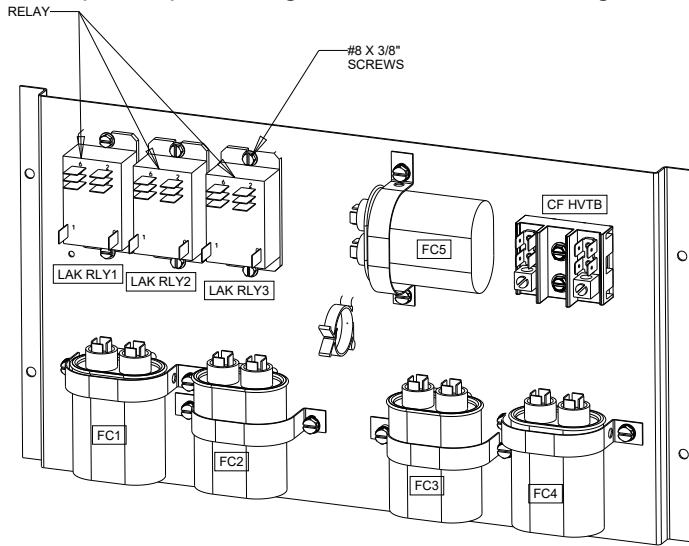

FIGURE 29
3. Remove Capacitor Box Cover, attach the relays to the capacitor plate using #8 X 3/8" screws. See Figure 29.